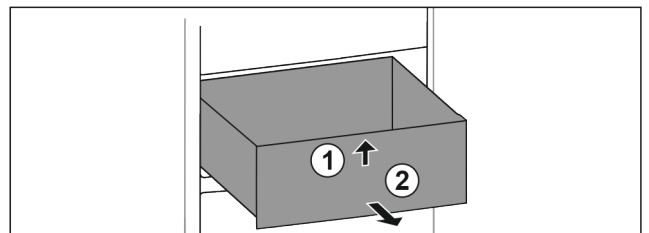

Fig. 64
- ▶ Lift up drawer at the front. Fig. 64 (1)
- ▶ Remove drawer to the front. Fig. 64 (2)